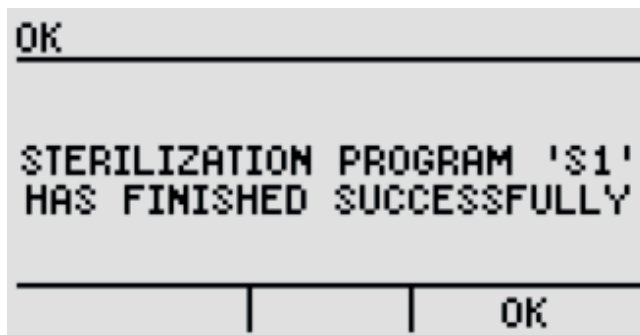

Fig. 26
3. After the program successfully finishes, a message is displayed (Fig. 26).
3. After the successful completion of the program, a message is displayed on the unloading side, see Fig. 26.